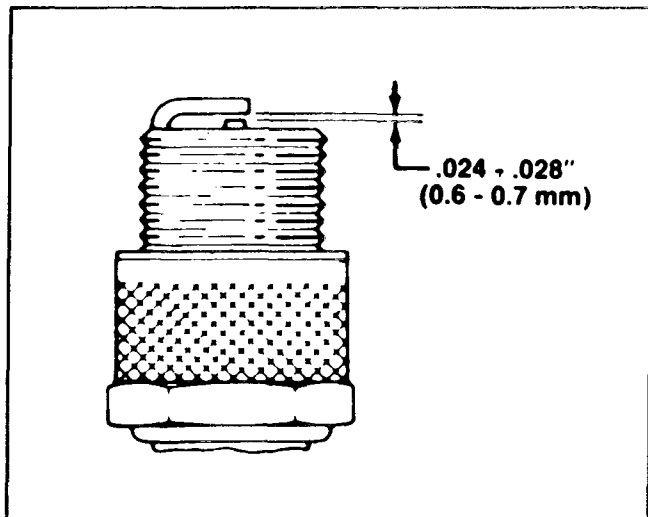

Figure 3
3. Set the plug gap to 0.6-0.7mm (.024-.028"). See Figure 3.